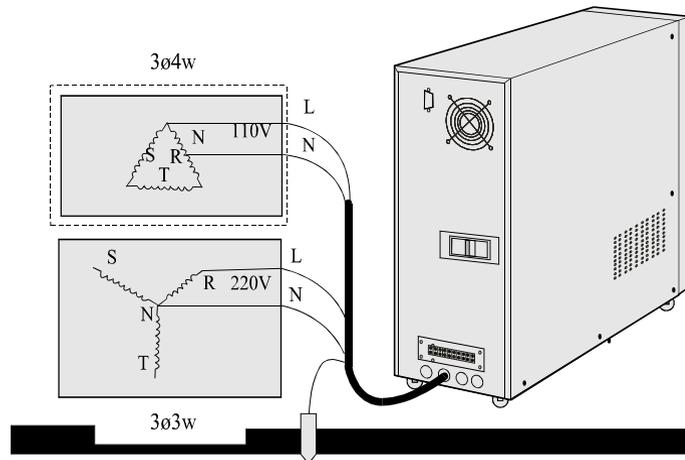

Figure 15
8. Try to make the ground close to connecting point of grounding club or origination point in switch-board. Please refer to figure 15.